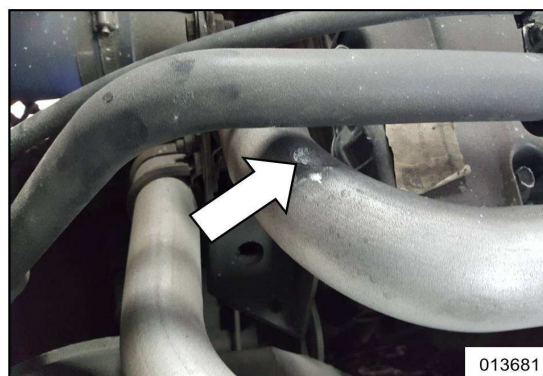

Figure 1
- Interference is possible between the transmission oil filler pipe and a coolant pipe (see figure 1). This can in the long term cause perforation of the coolant pipe with coolant loss as result.
<p>5</p>	<p>Close both the floor traps above the engine. Do not mix fixing screws (refer to Figure 1)!</p>